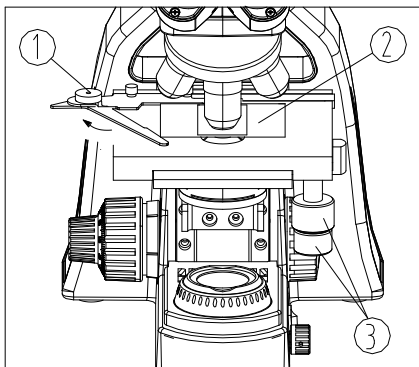

Fig.8
1. Push the wrench (1) of the specimen holder backwards.
2. Place the cover glass of slide (2) faced upwards into the clip, loosen the wrench (1) and clamp the slide (see Fig. 8).
3. Rotate the X and Y-axis knob (3) of the stage, and move the specimen to the center (aligned with the center of objective).